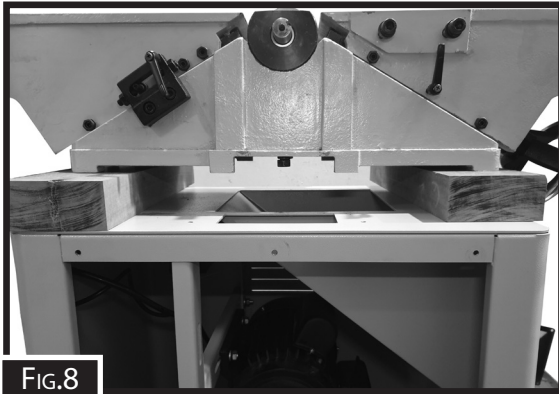

FIG.8
11. Use a mechanical lifting device to lift the machine off the base and place blocks of wood under each side to access the spindle mounting nuts. (Fig.8)